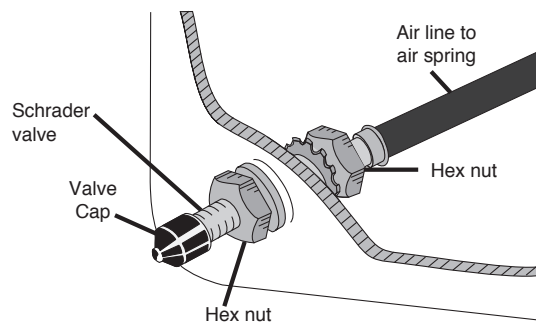

fig. 10
4. Place a 5/16" nut and star washer on the air valve. Leave enough of the inflation valve in front of the nut to extend through the hole and have room for the rubber washer, flat washer, and 5/16" nut and cap. There should be enough valve exposed after installation – approximately 1/2" – to easily apply a pressure gauge or an air chuck (Fig. 10).